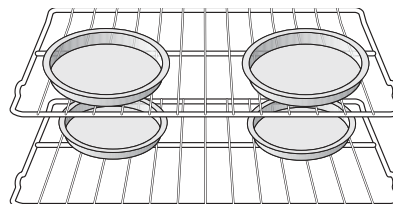

Fig. 44 Pans spaced for convection baking
- For multiple-rack convection baking, place items on racks as shown in Figure 44.